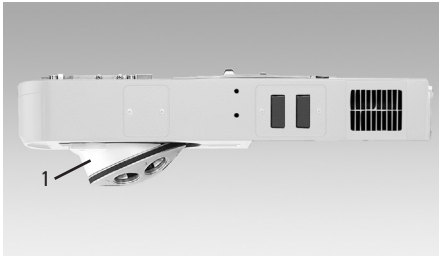

Fig. 20: Stand top Leica DM4000 M
Stand top DM4 M, 6x objective turret, 4x (RL) (Fig. 20 p. 12)